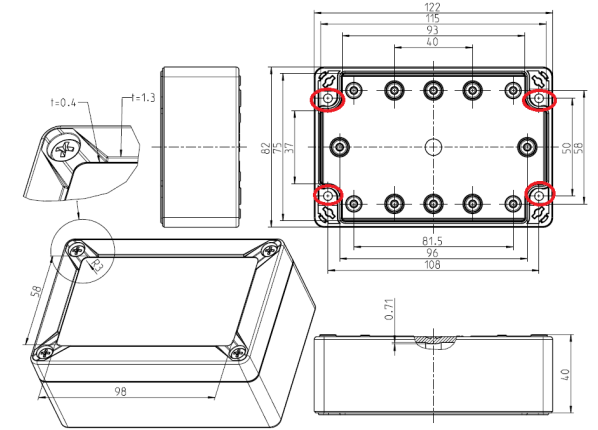

Figure 3: Housing measurements [mm]
The gateway is securely fastened to a wall or ceiling with the cover open using the four fastening points marked in red in Figure 3 and 4 mm anchor screws. For example, in a solid brick wall, 4 mm anchor screws with a length of 50 mm can be used with 38 mm long dowels with a diameter of 6 mm to ensure a good hold.
! The gateway must be securely screwed to a wall/ceiling using four suitable M4 screws and wall anchor, cf. red marking in figure 3.
! The mounted pressure compensation element (9) increases the total width of the gateway from 122 mm in figure 3 to a total of 130 mm.